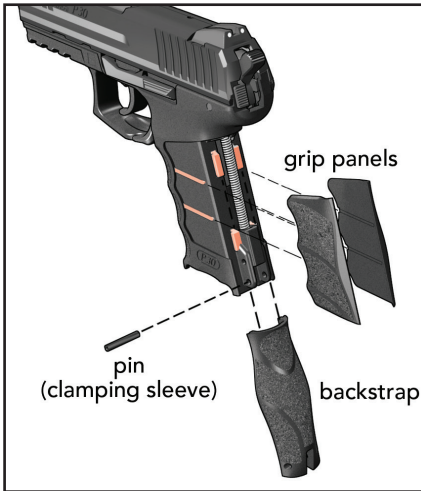

Figure 27
1. Using a 2.8 mm (or 7/64") pin punch, remove the pin holding the backstrap in position. Choose the combination of backstrap and grip panels that provide the most comfortable fit for the operator (see Figure 27).